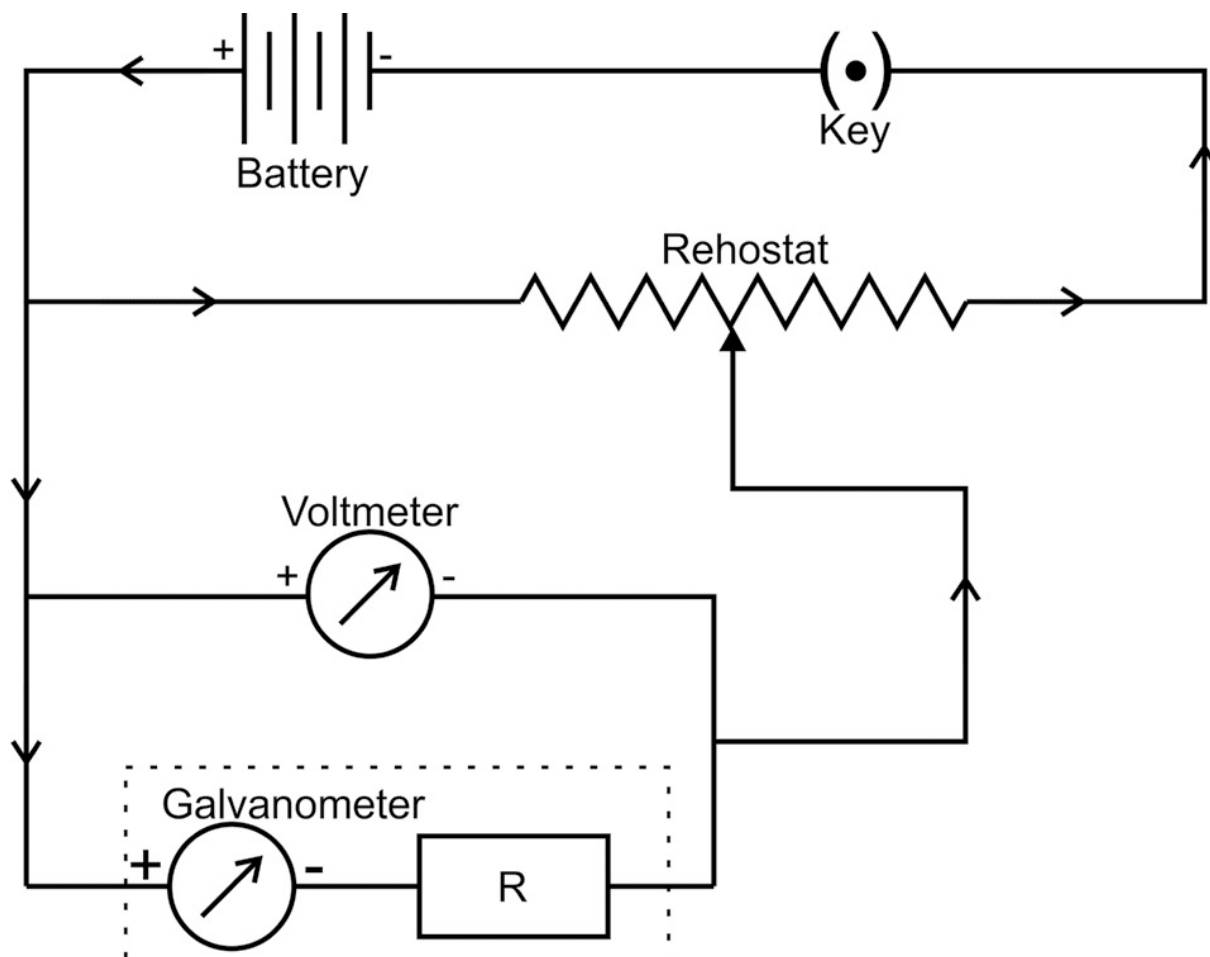

Fig P13.1
5. Make connection as per circuit diagram in Fig P13.1.